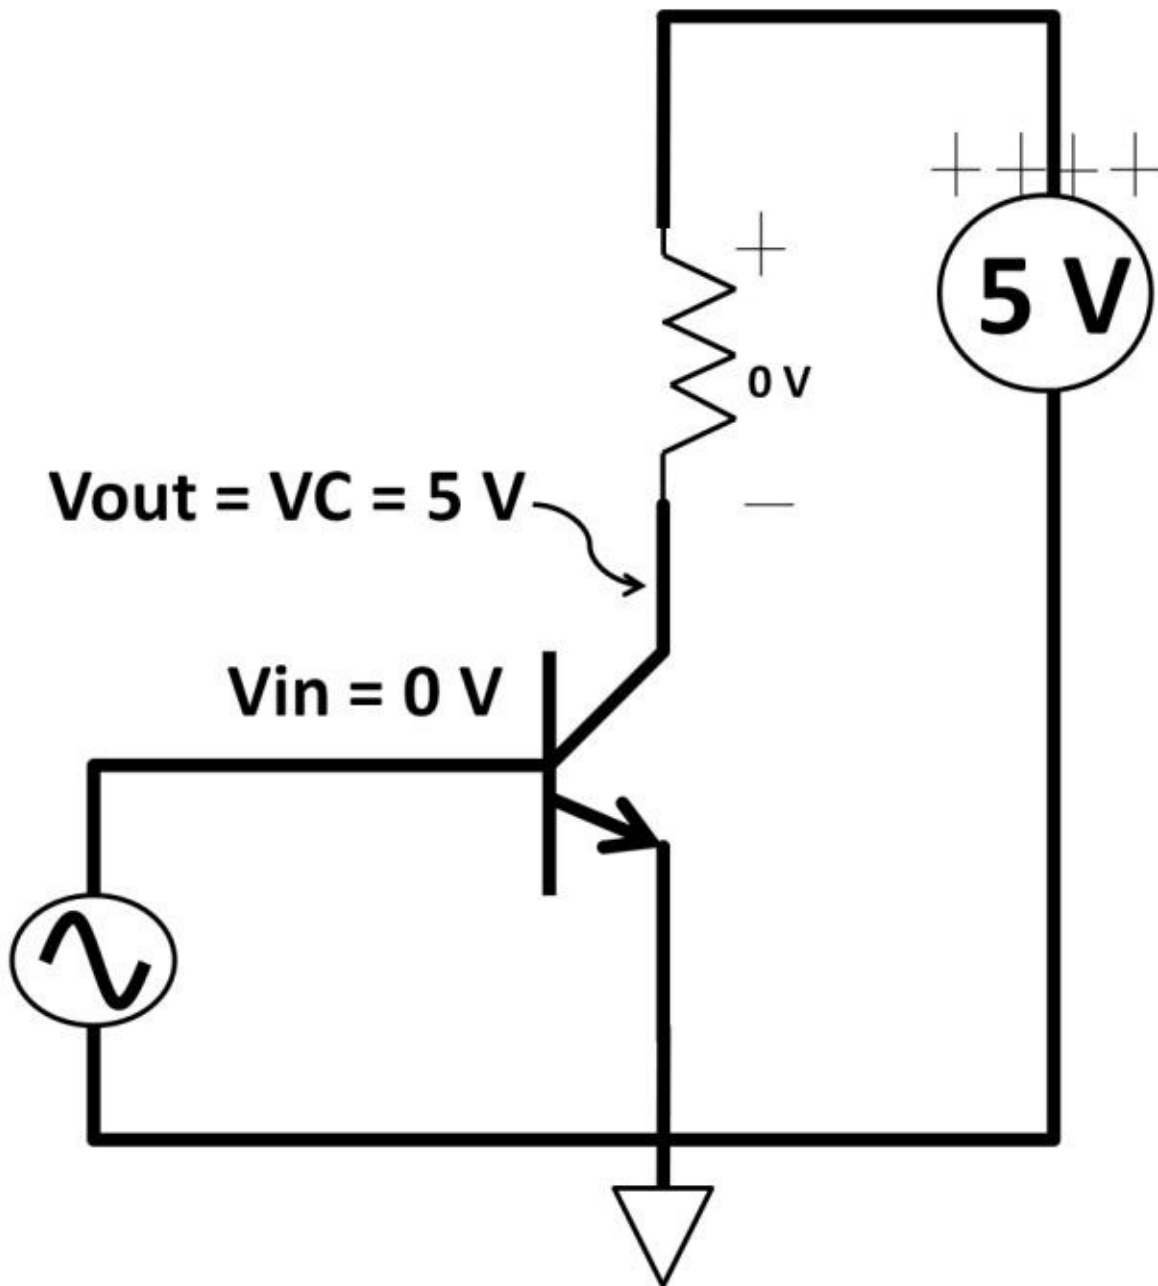

Figure 4.14:
Let's apply individual transistor understanding into a simple circuit: an amplifier. An amplifier by definition provides voltage, current, and/or power gain. Amplifiers are regularly used to amplify input signals and produce a larger output signal. The circuit in figure 4.9 is categorized as a single-ended amplifier. There is one single input and output. This is a common emitter amplifier, which means the emitter is common (DC) to a fixed potential where the output is located at the collector. There are many ways to build amplifiers using transistors. We will look at several in this section. Reusing the circuit back in figure 4.9, we revised it to replace the input with a sinusoidal source shown in figure 4.14. When V_{in} is zero, NPN stays off (Zero V_{BE}). No I_B , I_C , and I_E are zeros. There is no voltage drop across the resistor. V_{out} is 5 V according to Ohm's law: